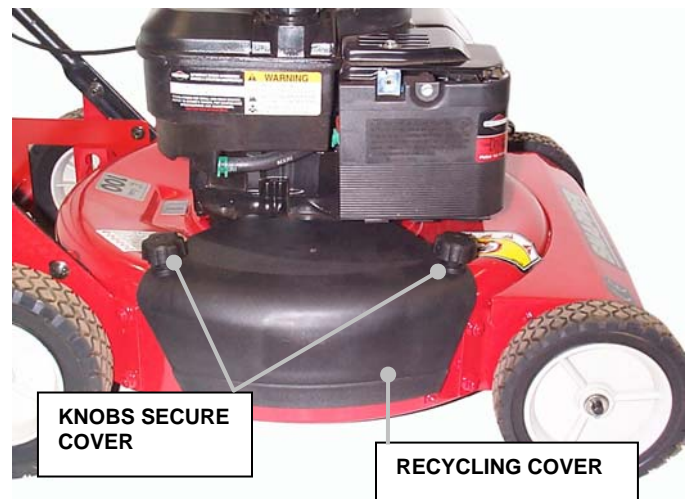

FIGURE 2.7
1. REMOVAL: The recycling cover is secured in place with two knobs. To remove the cover, unscrew the two knobs and lift off the cover. See Figure 2.7.